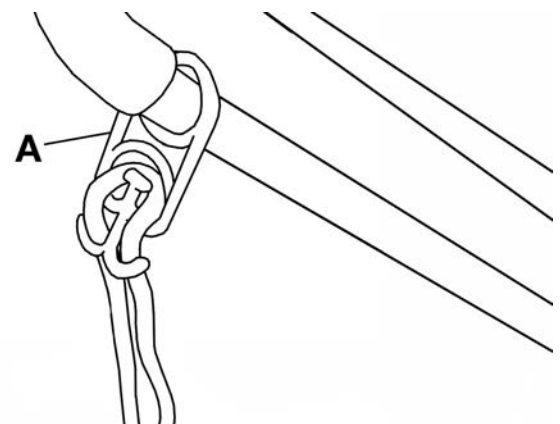

FIGURE 19
3. To prevent the extension cord from disconnecting during use, lock the extension cord in the cord retainer (A) Fig.19 as shown before connecting the tools plug to an extension cord.